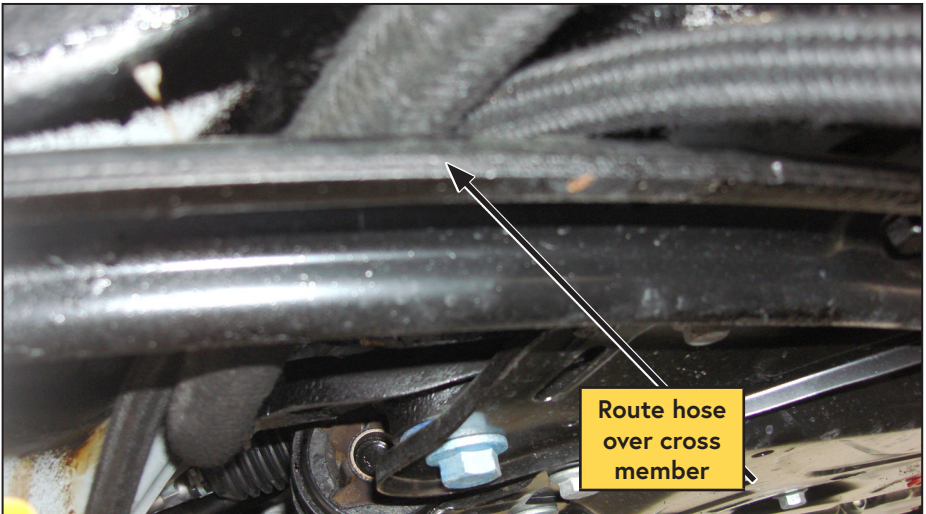

Figure 39 — Hose routing
- Route the hoses over the top of the cross member and along the floor tunnel (Figure 39).